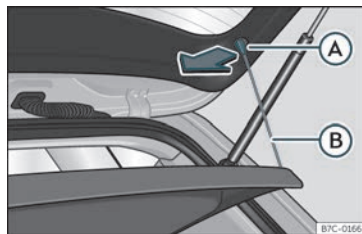

Fig. 114 In the luggage compartment: removing and fitting the shelf.
- Detach the cord loops»» Fig. 114 (B) from their hooks (A).
- Hook the loops»» Fig. 114 (B) to the rear lid.